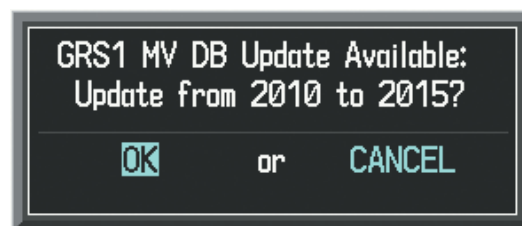
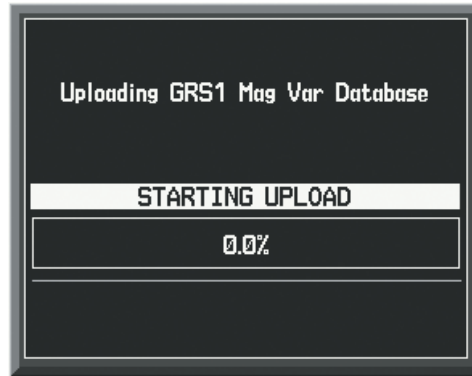

Figure B-13 GRS1 Magnetic Field Variation Database Update Prompt
Figure B-14 Uploading Database to GRS1
A copy of the current magnetic field variation database (MV DB) is included with the navigation database. At startup, the system compares this version of the MV DB with that presently being used by each AHRS (GRS1 and optional GRS2). If the system determines the MV DB needs to be updated, a prompt is displayed on the Navigation Map Page, similar to Figure B-13. Note, in the following example, GRS1 is the first AHRS to indicate an update is available. In actuality, this is dependent on which AHRS is the first to report status to the system. GRS2 may be displayed before GRS1. The order is not important, only that each AHRS be updated, if more than one is installed.
- 1) With 'OK' highlighted, as seen in Figure B-13, press the **ENT** Key on the MFD. A progress monitor is displayed as shown in Figure B-14.